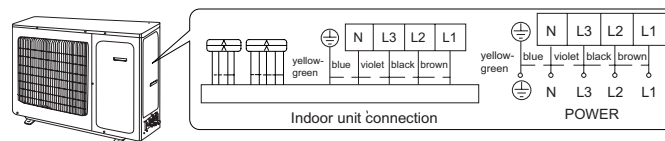

Fig.22
- 1.Remove the wire clip; connect the power connection wire and signal control wire (only for cooling and heating unit) to the wiring terminal according to the color; fix the power connection wire with screws.(As show in Fig.22)